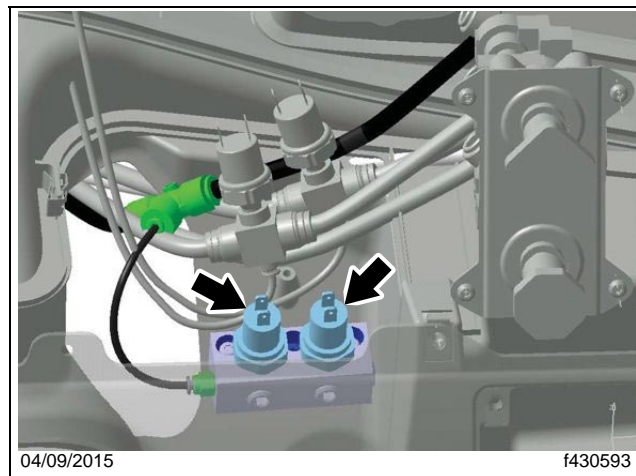

Fig. 1, Optional Park Switch Location
5. Remove the dash panels to gain access to the air switches located by the MV3 valve. See **Fig. 1**.